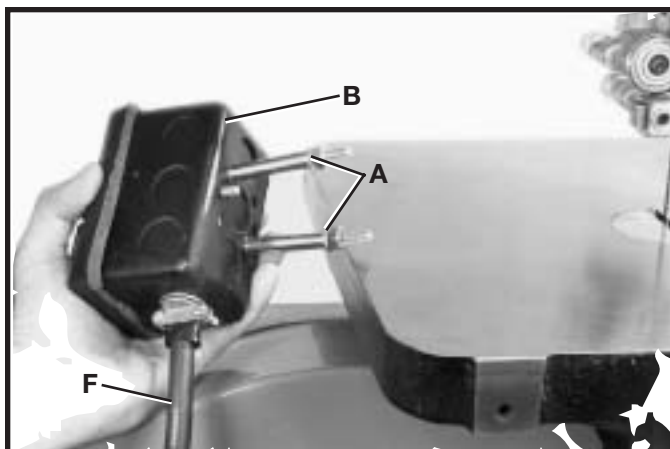

Fig. 8
3. Remove two outer hex nuts and lock washers (A) Fig. 8, from the two screws extending out from the back of the switch box (B).